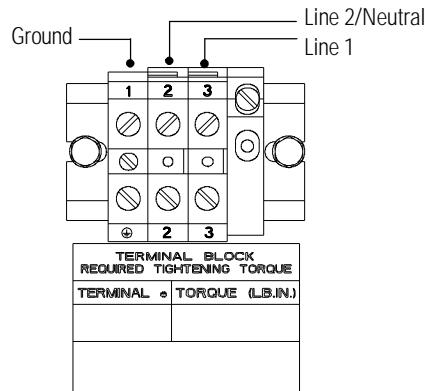
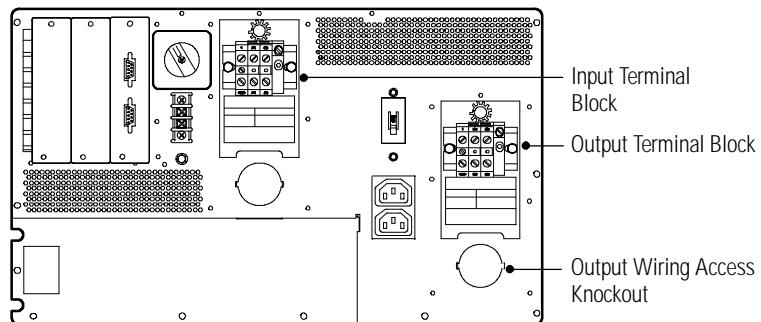

Figure 12. Terminal Block
Figure 13. PW5140 6000 HW Model
5. Connect the input and ground wires to the input terminal block according to the wiring instructions below the terminal block (see Figure 12).
6. If you have a PW5140 6000 HW model, remove the output wiring knockout and the terminal block cover (see Figure 13). Retain the terminal block cover.
Connect the output and ground wires to the output terminal block according to the wiring instructions below the terminal block (see Figure 12 and Figure 13).